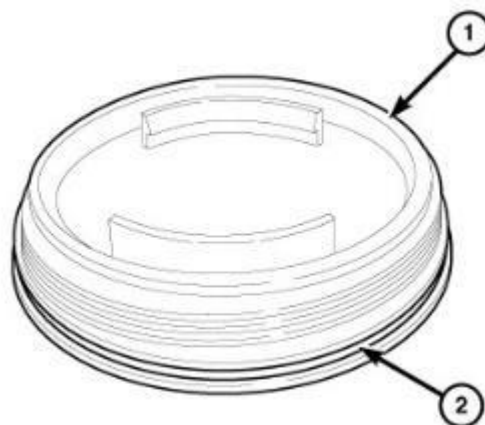

Figure 32 - Filter Cover O-ring
68. Lubricate the **NEW** O-ring seal (2) on filter covers (1) with clean diesel (Figure 32).